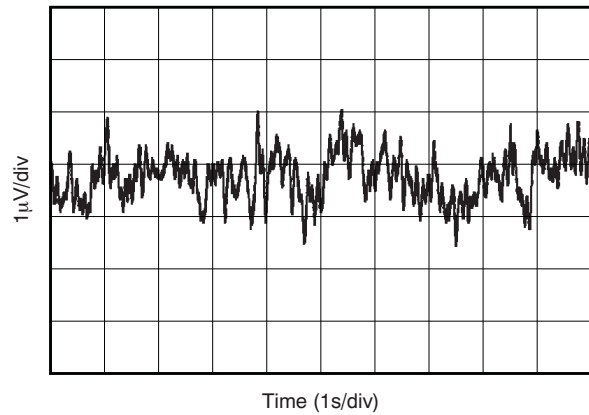

Figure 8. 0.1- to 10-Hz Noise
0.1Hz to 10Hz Noise	<a href="#">Figure 8</a>